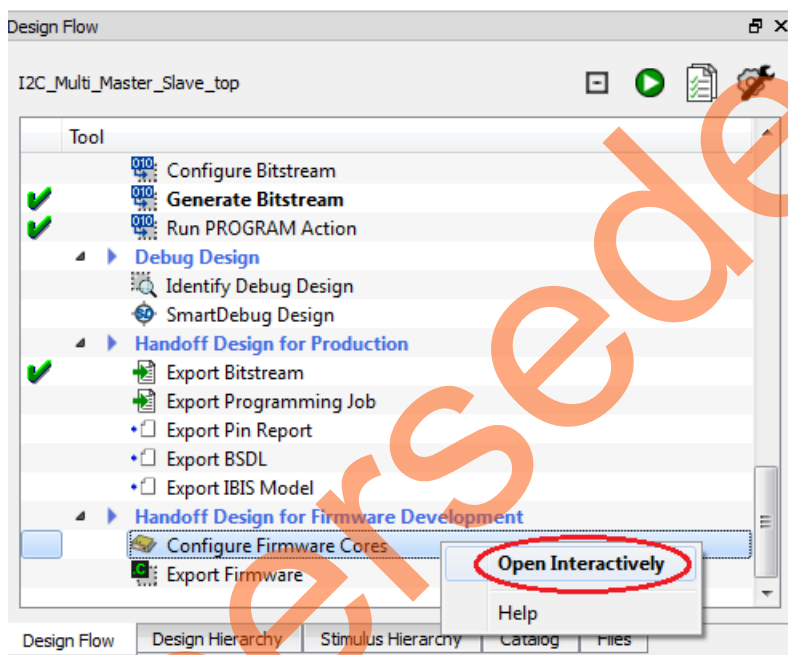

Figure 21 • Invoking Configure Firmware Cores
1. Expand Handoff Design for Firmware Development in the **Design Flow** tab as shown in Figure 21. Right-click **Configure Firmware Cores** and click **Open Interactively**.